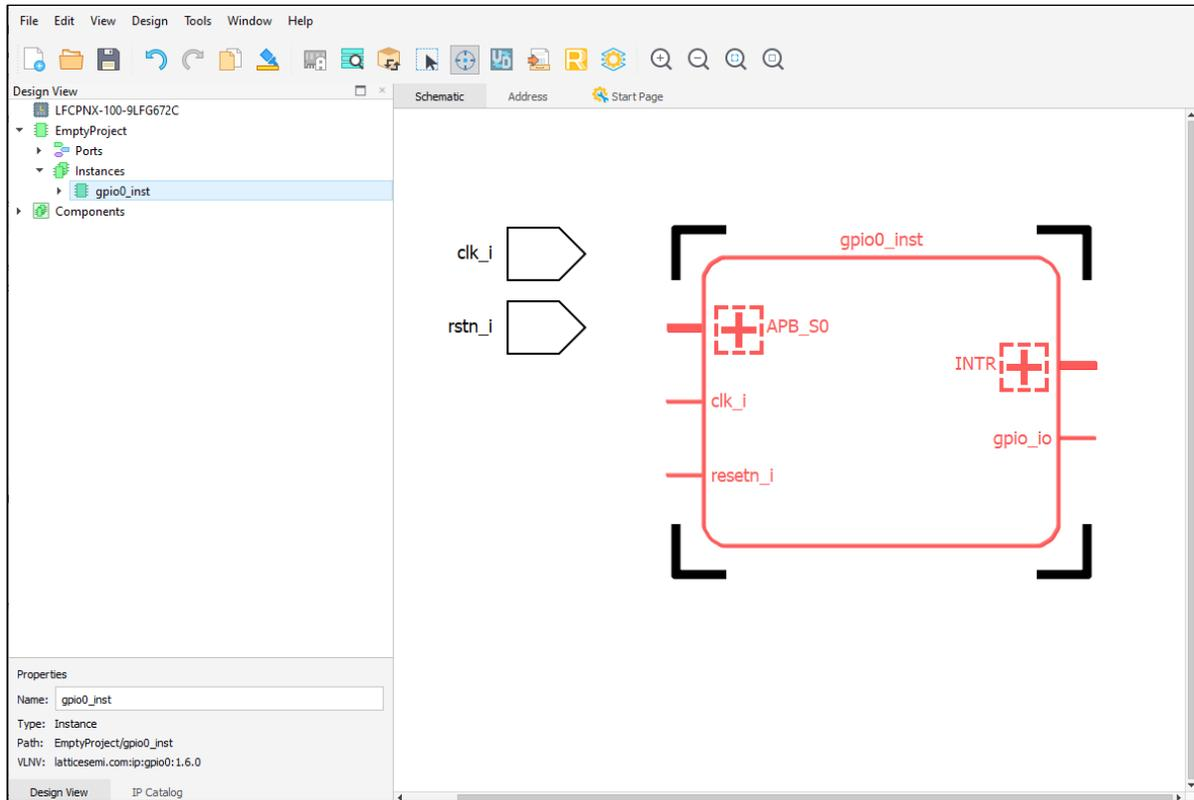

Figure 2.41. Locate Objects
2. Select the object in the List view of the Design View. The selected object is in the center of the Schematic View (Figure 2.41).